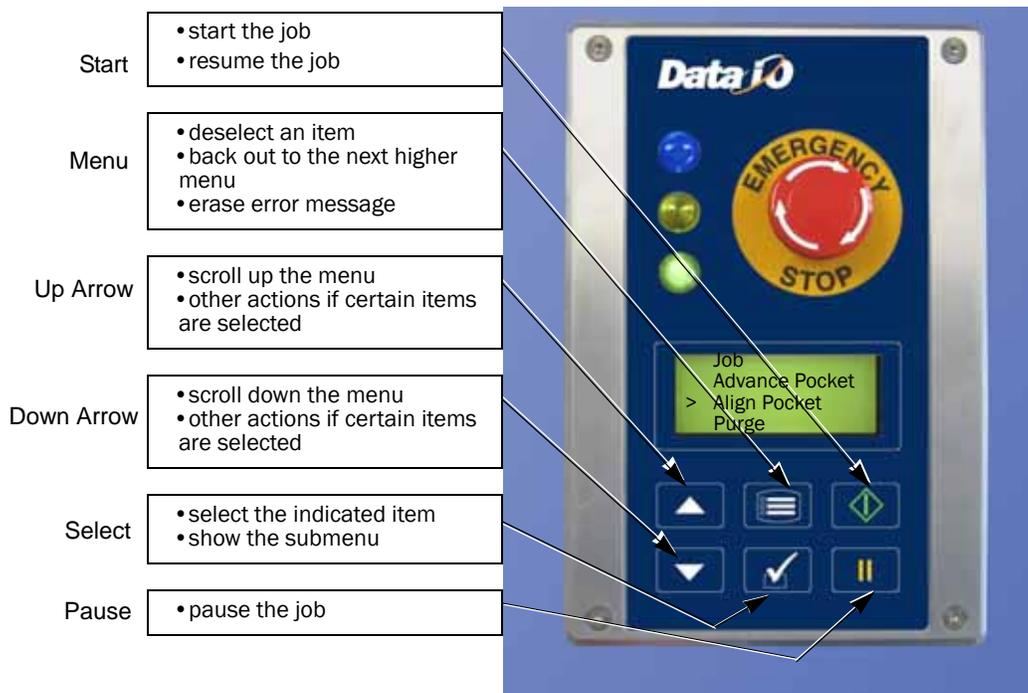

Figure 3-2—Keypad Layout
- With some functions, the way the *Up Arrow* and *Down Arrow* keys function will change while that item is selected. For example, when **A**dvance **P**ocket is selected, the *Up Arrow* advances the device tape rather than scrolling the menu. See Figure 3-2.